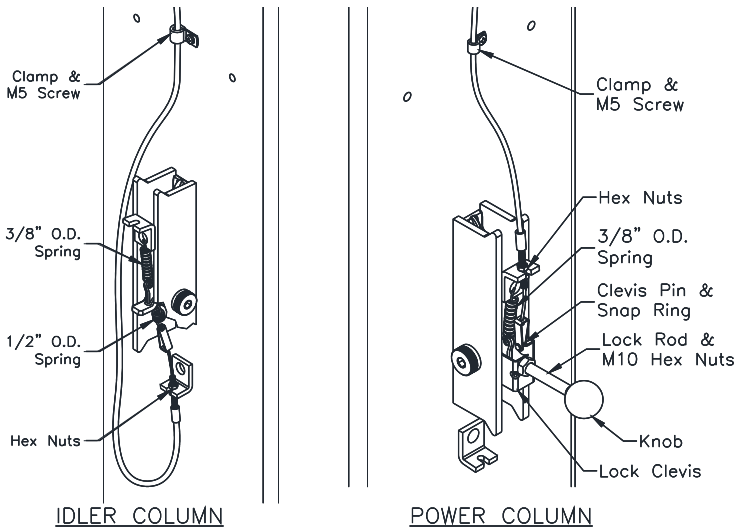

Fig. 9 – Lock Assembly
- 29) Attach Mechanical Lock Release Cable Assembly to each lock pawl. See Fig 9.